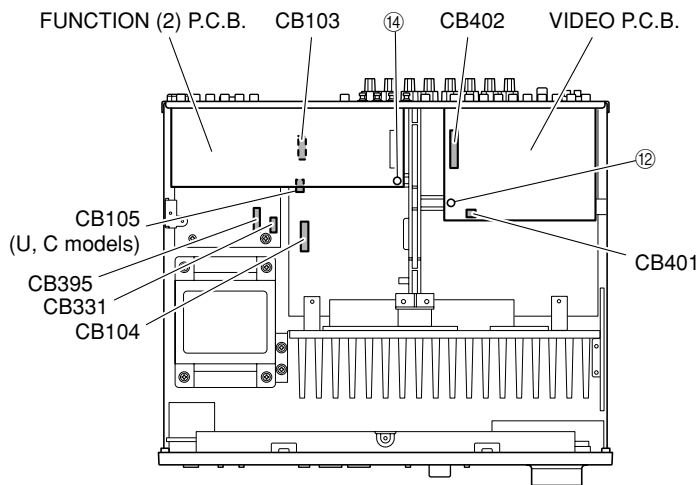

Fig. 3
- a. Remove 1 push rivet (⑫). (Fig. 3)
- c. Remove CB401 and CB402. (Fig. 3)
- d. Remove the VIDEO P.C.B.. (Fig. 3)
**7. Removal of FUNCTION (2) P.C.B.**
- a. Remove 1 push rivet (⑭). (Fig. 3)
- c. Remove the FUNCTION (2) P.C.B.. (Fig. 3)